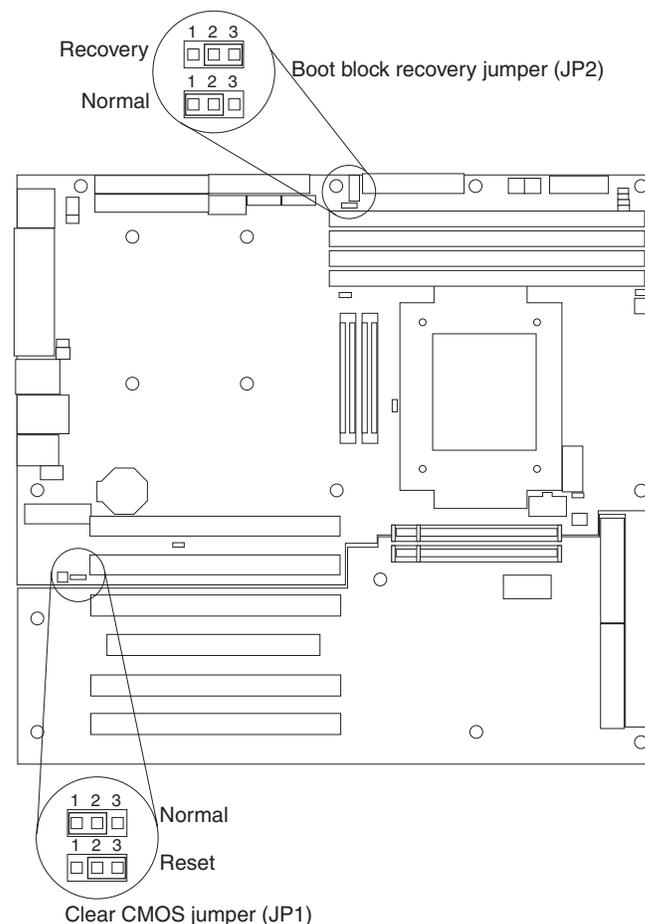

Figure 4. Location of recovery jumpers on system board
5. Locate the boot block recovery jumper (JP2) on the system board. Figure 4 shows the location of the boot block jumper on the system board.
5. Locate the CMOS recovery jumper (JP1) on the system board (see Figure 4 on page 21), removing any adapters that impede access to the jumper.